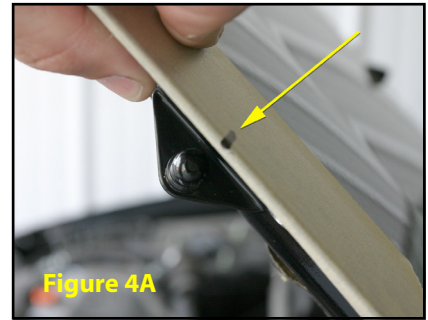

Figure 4A
A. Align the center of the bracket with the mark you just made on the hood. You will need to view the hood directly from the side as shown in **Figure 4A**. The bracket should sit on the flat area just inside the edge of the hood skin with the ball stud facing outward or away from vehicle. The back of the bracket should be up against the hood's frame.